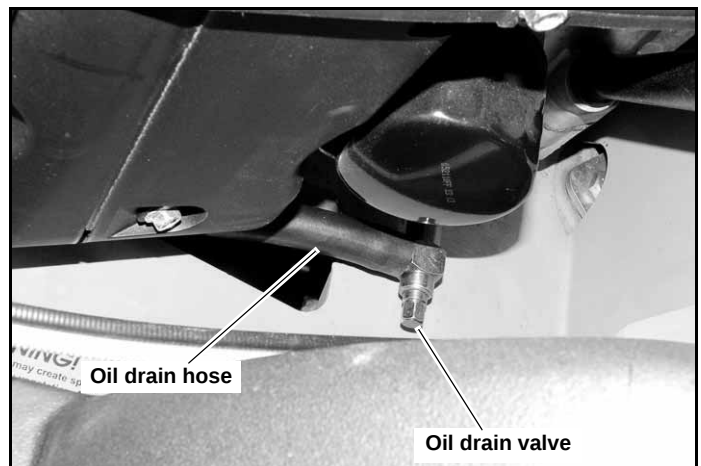

Figure 5-2
Draining the engine oil (units equipped with oil drain valve as shown in Figure 5-2):
1. Locate the oil drain valve on the engine. Figure 5-2